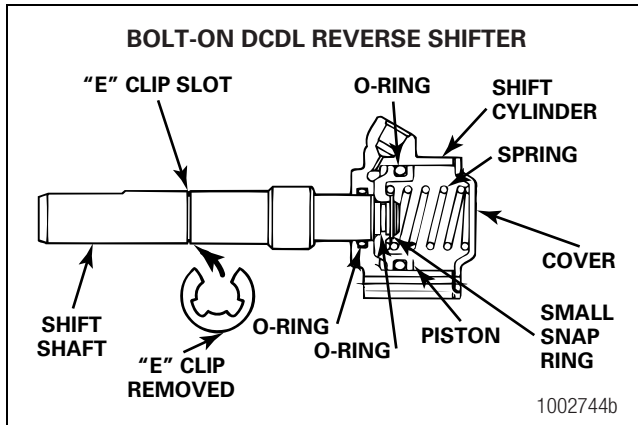

Figure 3.39
2. Remove the two capscrews and washers that fasten the cover to the shift cylinder. Remove the cover and spring. Figure 3.39.